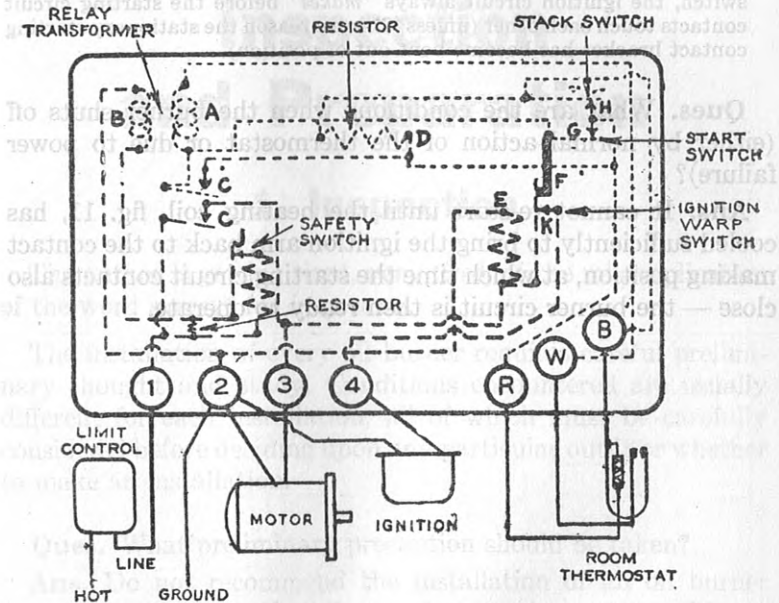

FIG. 13—Wiring diagram of Delco primary ("master") control.
A small amount of current flows through the heating coil during the burner operation which keeps the ignition contacts K fig. 13 apart.
**Ans.** It has a fork shaped piece of insulation F, fig. 13, attached to a right angle shaped metal arm with the starting switch contact on its outer end.
**Ans.** The contact on the small metal arm is touching a stationary contact G, fig. 13, to complete the starting circuit.